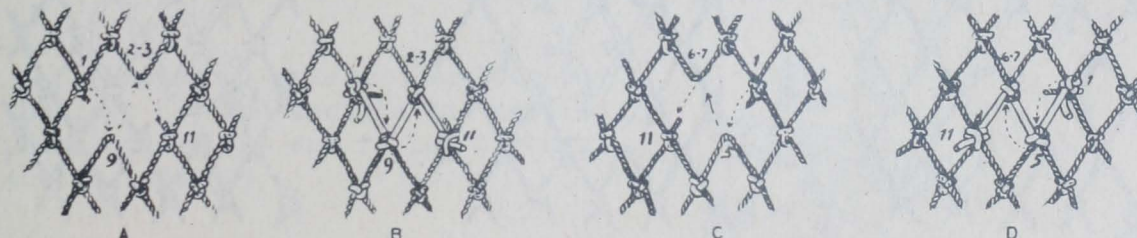

FIG. 21 - TEAR ALONG THE MESHES
The tear shown in Figure 21-A is known as a "tear along the meshes." Here is the starter three-legger (1), and the finishing three-legger (11), in addition to the half mesh (2-3) and the pick-up mesh (9). In Figure 21-A the starter knot is on the left side of the tear, therefore, mending proceeds from left to right (Figure 21-B). In this case the needle is always taken from under the loop when making the tie. Figure 21-C shows a tear similar to that in Figure 21-A. The only difference is the location of the starter three-legger on
the right side of the tear. Therefore, mending proceeds from right to left (Figure 21-D). In this case the needle is always inserted into the loop from above. If the mending direction is not carefully noted, the twine will not line up in the proper direction when each knot is made with the result that the knot will be upside down or twisted.